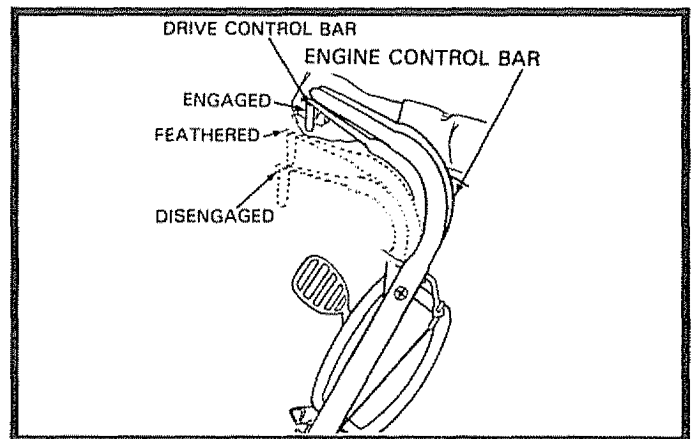

FIG. 11
- To start forward motion, slowly pull Drive Control Bar to the Handle (See Fig. 11).
- To stop forward motion release Drive Control Bar (See Fig. 11).
- By slightly releasing the Drive Control Bar the Drive can be slowed or "feathered" so you may make turns around obstacles or at end of rows (See Fig. 11).